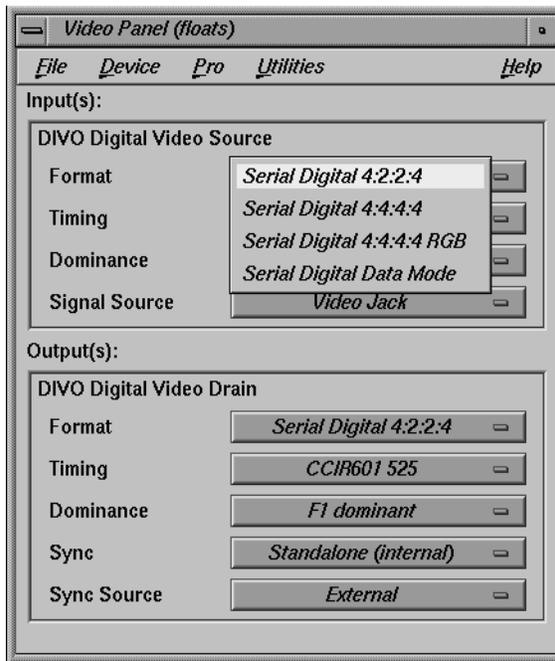

Figure C-2 Selecting Digital Input Video Format in *vcp*
3. In the Inputs(s): DIVO Digital Video Source section of the control panel *vcp* for the channel(s) you are using, select the format that matches your equipment, as shown in Figure C-2.